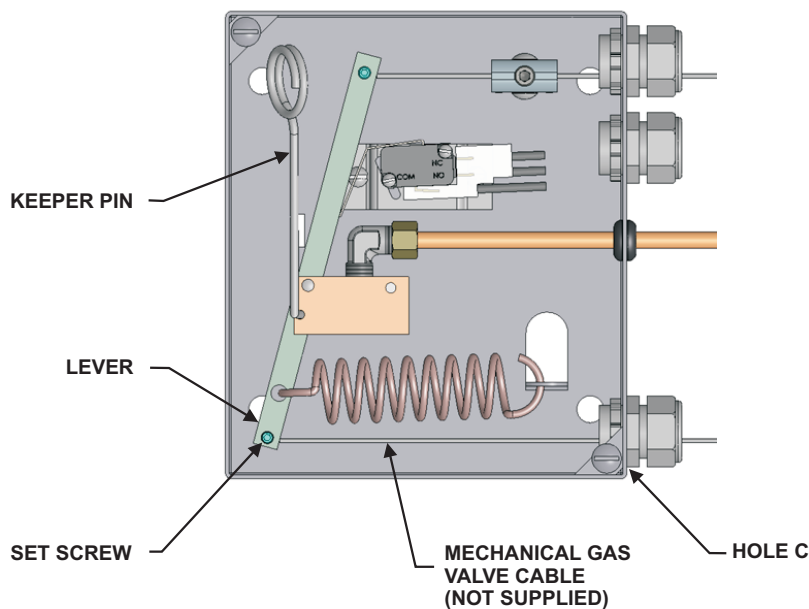

Figure 5-22. KRS-50 Control Box in "SET" Position
4. Install the Keeper Pin (P/N 60-9197108-000). The KRS-50 Control Box is now held in the "SET" position (see Figure 5-22).